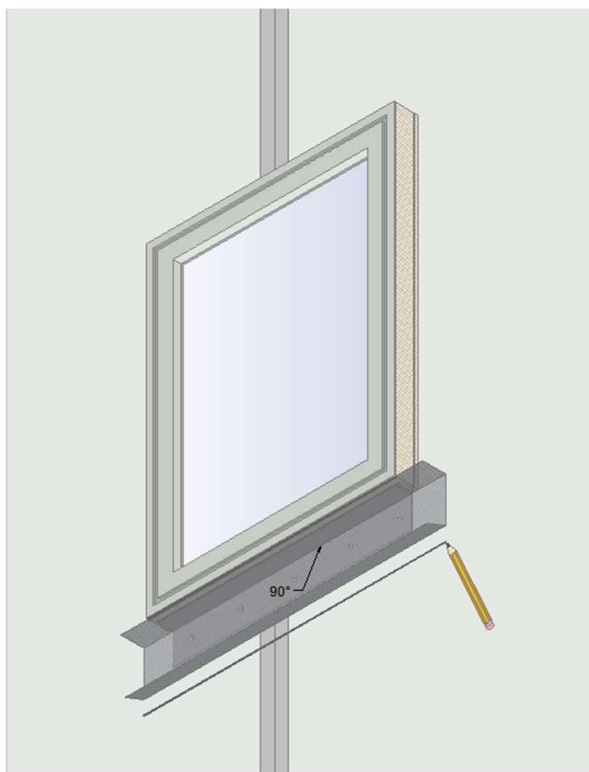
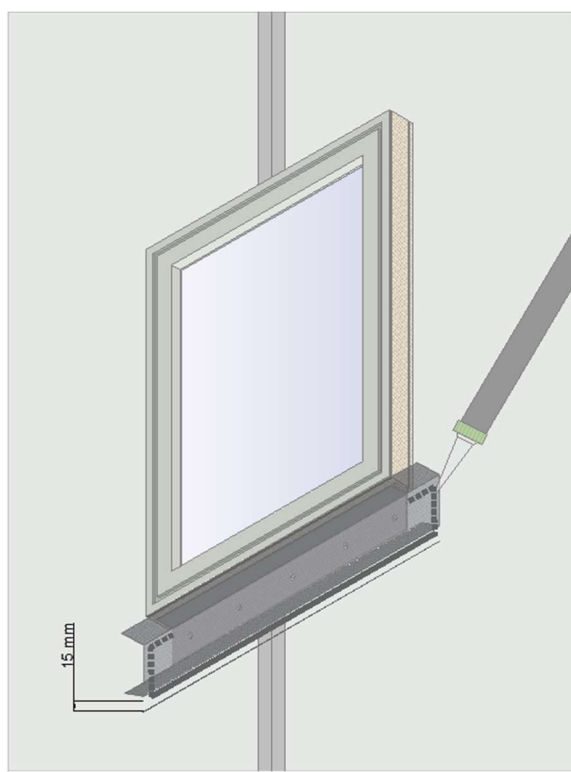

Figure 5
Figure 6
- Make a mark along the entire run where the trailing edge of the membrane will terminate against the substrate (Figure 5). Now apply a consistent and uniform 10 mm diameter bead of adhesive along the full length of the run, 15 mm inside of the installed membrane line and then continue the bead 15 mm inside the edges and the fold of the excess membrane (Figure 6).